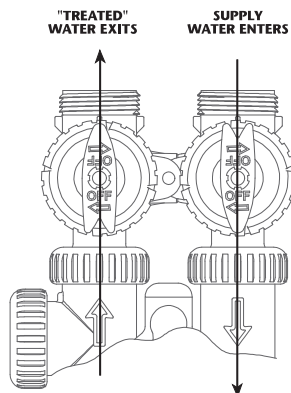

Figure 1
1. **NORMAL OPERATION POSITION:** The inlet and outlet handles point in the direction of flow indicated by the engraved arrows on the control valve. Water flows through the control valve for normal operation of a water filter. During the regeneration cycle this position provides regeneration water to the unit, while also providing untreated water to the distribution system (**Fig. 1**).